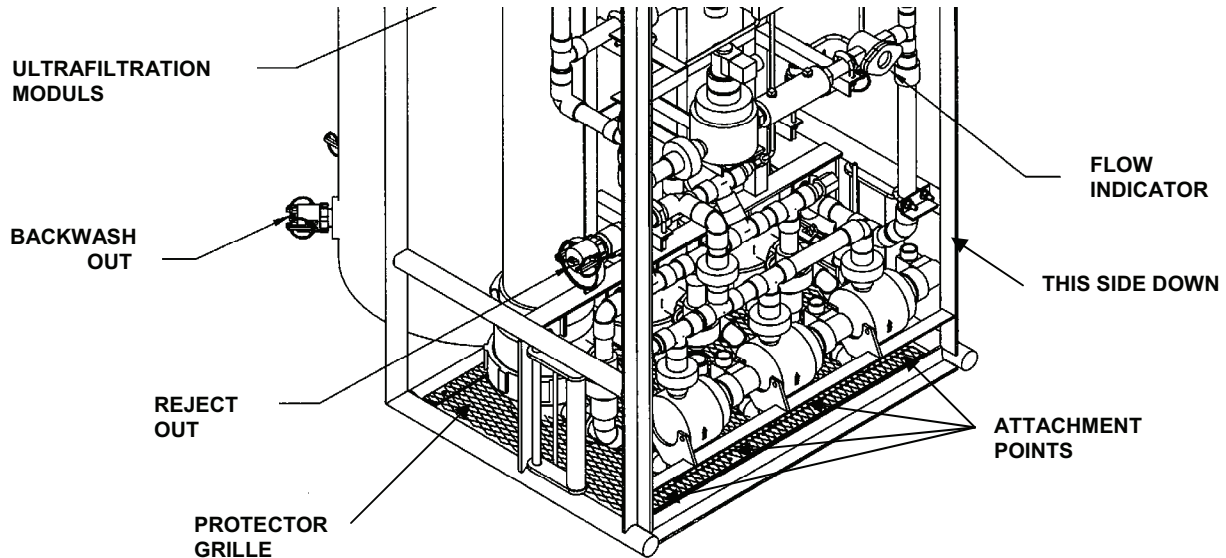

Figure 2. Protective Grille.
1. Position the UF module on its side to obtain access to the protective grille. Do not lay module on fabric filtrate tank (T2). See Figure 2.
5. Place the UF module in the upright operational position. See Figure 2.